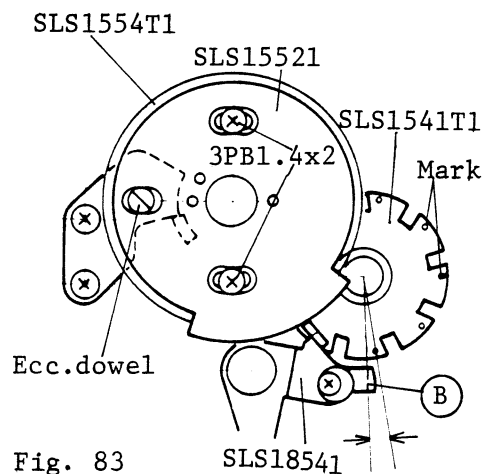

Fig. 83
- 1) When the exposure counter indicates to "S" (start), engage SLS1541T1 Dividing device with the SLS1554T1 Film counter gear as end (B) of the SLS15842 Stop lever should be determined as shown in Fig.83.
- 2) Fine adjustment is made by turning the ecc.dowel in the SLS1554T1 Film counter gear after loosening two screws 3PB1.4x2BNI as shown in Fig.83.